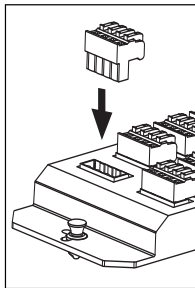

Figure 2
7. Plug the connectors into the IRH610 as shown. (Figure 2) The single connector plug at the upper right is the output to the main system unit. The other connector plugs are the inputs, each leading from a specific infrared sensor. See (Figure 3).